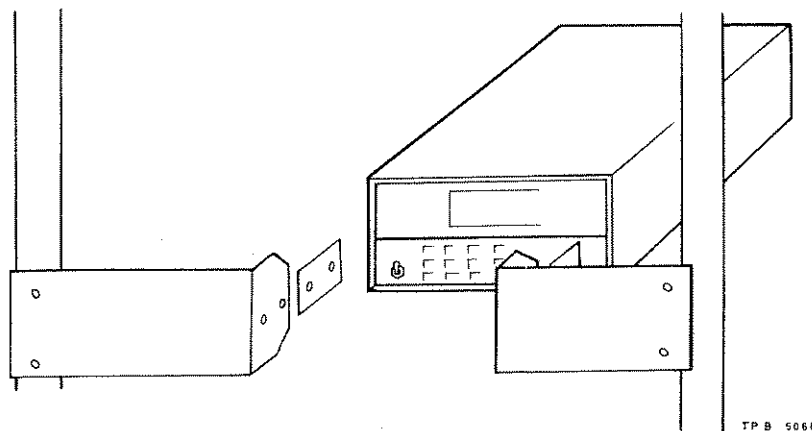

Fig. 2 Single unit rack mounting
8. The instrument may be mounted in a standard 19 inch rack as a single unit using the kit 46883-716B. This contains a pair of side angle plates wide enough to allow the instrument to sit centrally within the rack frame as shown in Fig. 2 below.